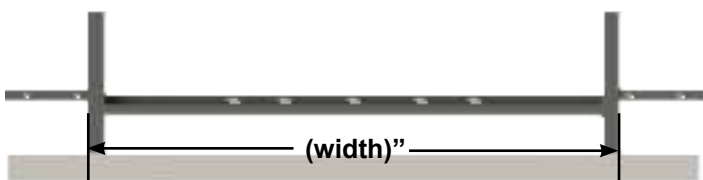

Fig.2
1. Measure frame to determine the width of the trailer (Fig. 2). Specifically, measure from the outside of the frame flange to the outside of the frame flange on the other side (Fig.3A).